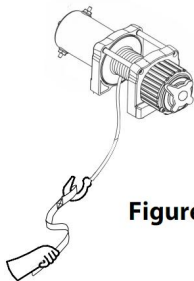

Figure 2
9. **ALWAYS USE THE HAND SAVER When** guiding the wire rope in or out. (See Figure 2).